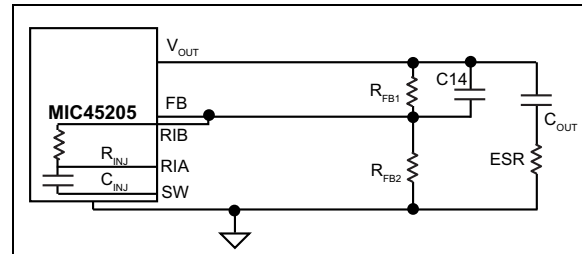

FIGURE 5-5: Internal Ripple Injection at FB via RIB Pin.
2. Virtually no or inadequate ripple at the FB pin voltage due to the very-low ESR of the output capacitors, such is the case with ceramic output capacitor. In this case, the V_{FB} ripple waveform needs to be generated by injecting suitable signal. MIC45205 has provisions to enable an internal series RC injection network, R_{INJ} and C_{INJ} as shown in Figure 5-5 by connecting RIB to the FB pin. This network injects a square-wave current waveform into the FB pin, which, by means of integration across the capacitor (C_{14}), generates an appropriate sawtooth FB ripple waveform.